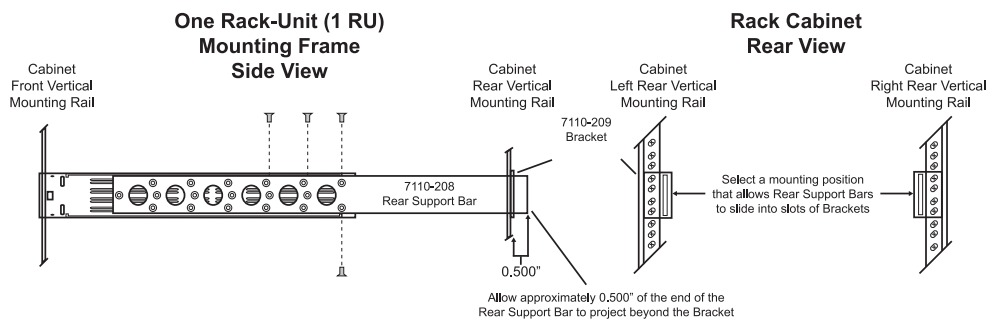

Figure 1.1 Installing the Support Brackets
The AFR-7814C mounts in the rack cabinet by means of four screws through the front mounting flanges. This should normally be sufficient to carry the load, including weight of cables. In some cases, (mobile trucks, etc.) it may be desirable to also support the rear of the frame. Rear support brackets (Ross part #FSB-7110) are available for a nominal cost. The rear support bars can be attached to the AFR-7814C in six possible positions (**Figure 1.1**).
2. Using four screws per bracket, as shown in **Figure 1.1**, attach both bars.